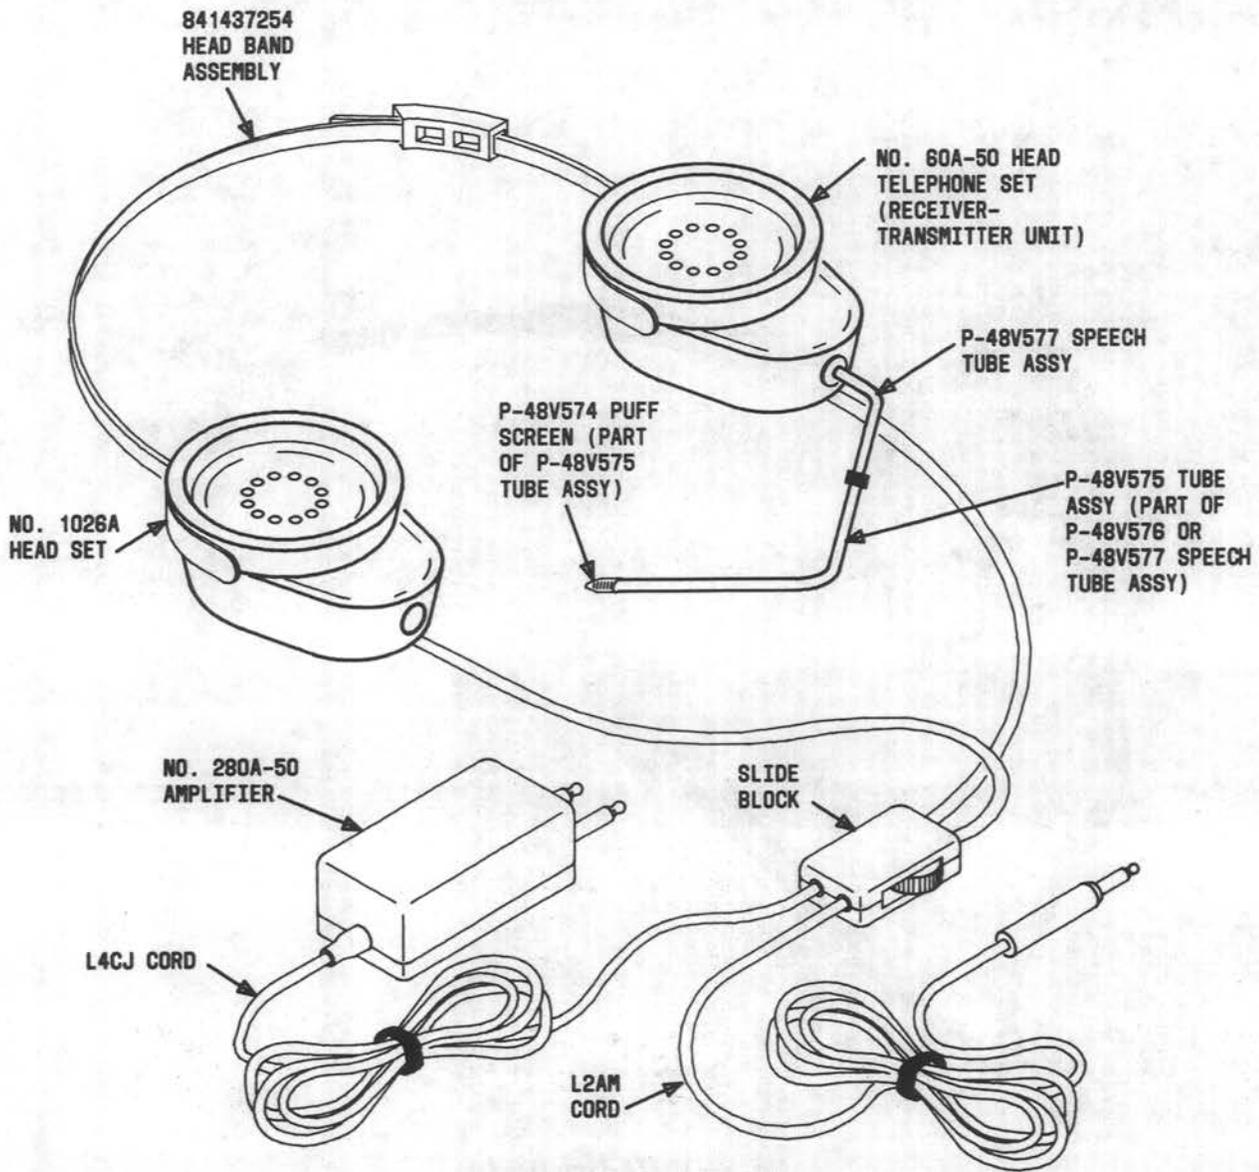

Fig. 6—1028A-Type Headset
4.12 L2AM Cord: To replace the L2AM cord as shown in Fig. 6, proceed as follows: